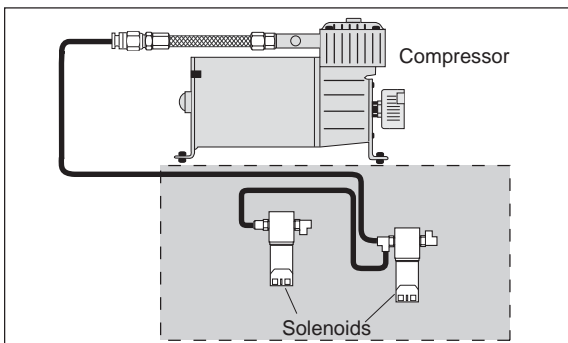

Figure 12
4. Install the remaining section piece of air line (I) onto the other leg of the same tee (Figure 12).
5. Route this air line to the straight fitting installed on the driver side solenoid (E) (Figure 12).